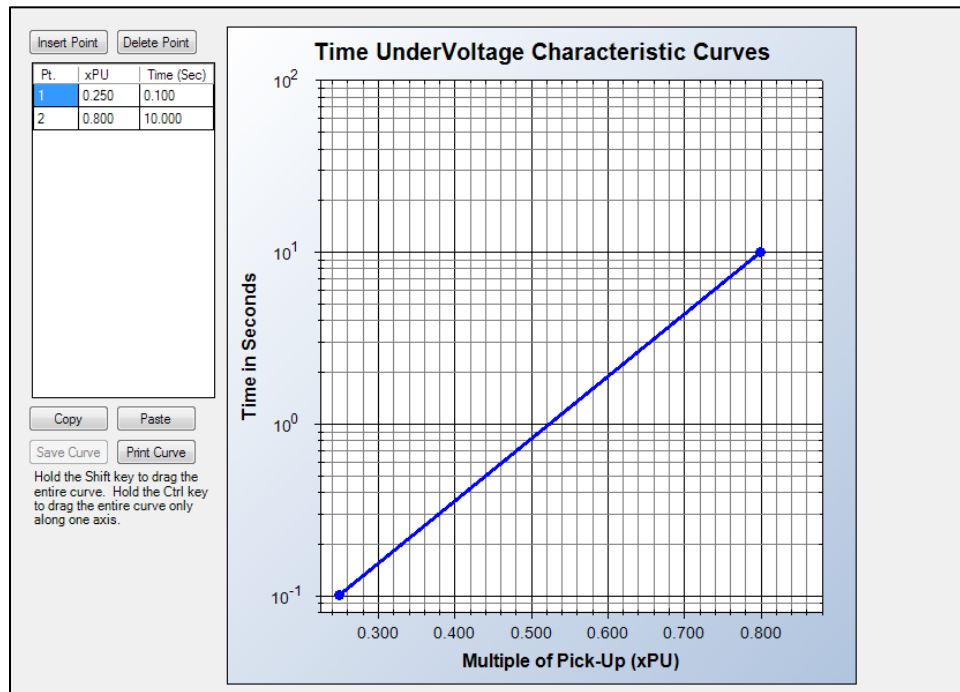

Figure 5-1. Time Undervoltage Characteristic Curves
*BESTCOMSPius* is used to set the 27P element Table Curves (T1, T2, T3, and T4). Using the Settings Explorer within *BESTCOMSPius*, open the Protection, Voltage, Undervoltage Table Curves, Table Curve (1, 2, 3, or 4) tree branch and select the table curve to be modified. Refer to Figure 5-1. A minimum of 2 and maximum of 40 points can be entered for any one T curve. When you are satisfied with the values chosen, select Save Curve. Use the Settings Explorer to browse to the 27P-x element you wish to program and use the drop-down menu under Curve to select T1, T2, T3, or T4.